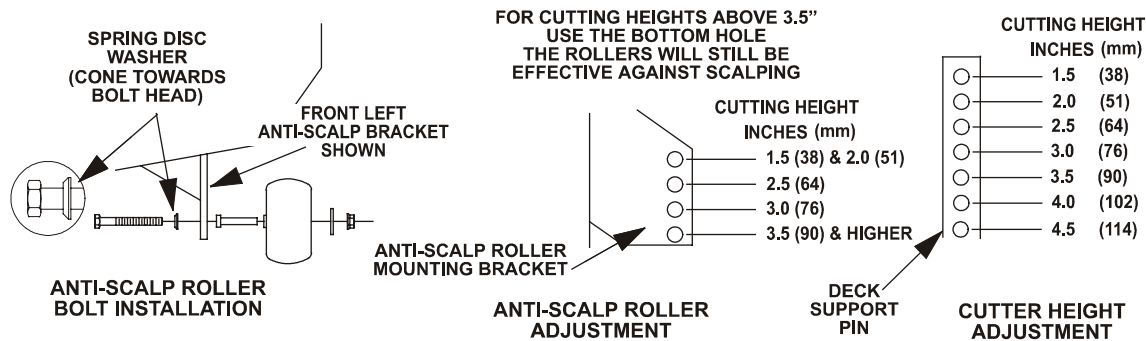

FIG 13
- b) Install hairpin clips in the holes for the desired cutting height (See Figure 13).
- c) Adjust anti-scalp rollers For Normal Operating Conditions. Place rollers in one of the positions shown in Fig. 13. Rollers will maintain 3/4 in. (19 mm) clearance to the ground to minimize gouging and roller wear or damage. **For Maximum Deck Flotation**, place rollers one hole position lower. Rollers should maintain 1/4 in. (6.4 mm) minimum clearance to ground. **Do Not** adjust rollers to support the deck. Be sure roller bolts and nuts are installed with the spring disc washer between head of the bolt and mounting bracket. **Torque to 40-45 ft-lbs., or loss of roller may result.**
- d) When operating in extremely rough conditions it may be necessary to position the anti-scalp rollers one or two holes higher than described in "b" to prevent damage to the rollers and/or bolt failure (See Figure 13).